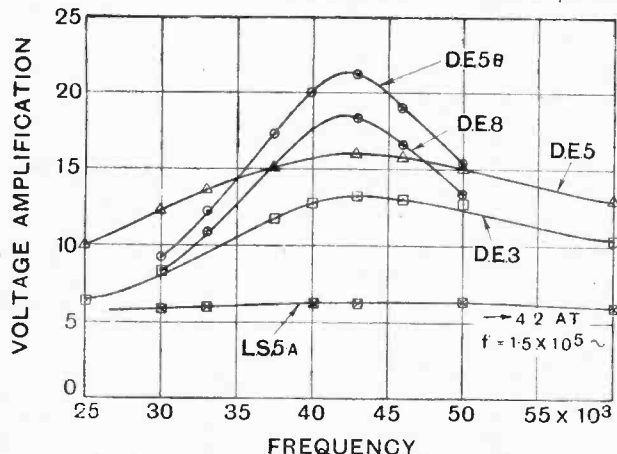

Fig. 7.—Amplification curves for No. 1 transformer.
(1) *Amplification Curves.*—The amplification curves for each of the four transformers under test are given in Figs. 7, 8, 9, and 10. The general effect of a low resistance valve is to give a flat-topped amplification curve, whilst a high resistance valve (D.E.8 or D.E.5B.) is accompanied by a decided peak. These effects are quite in accordance with theoretical considerations, as explained in another section of this article. To put the performance of the various valves and transformers on a comparative basis, the data of Table II have been compiled.